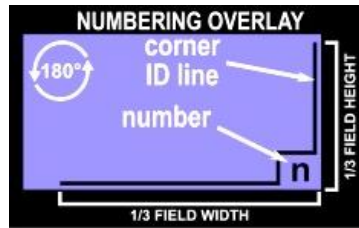
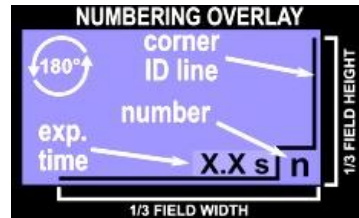

Figure 35 - Step & Repeat mode with "Number exposures" option
Figure 36 - "Add exposure time on overlay" option
- **"Number exposures..."**, **"...and add exp. time"** options. Those options respectively add on each design an overlay on their bottom right corner indicating their number order (Figure 35) and their exposure time in s (Figure 36).